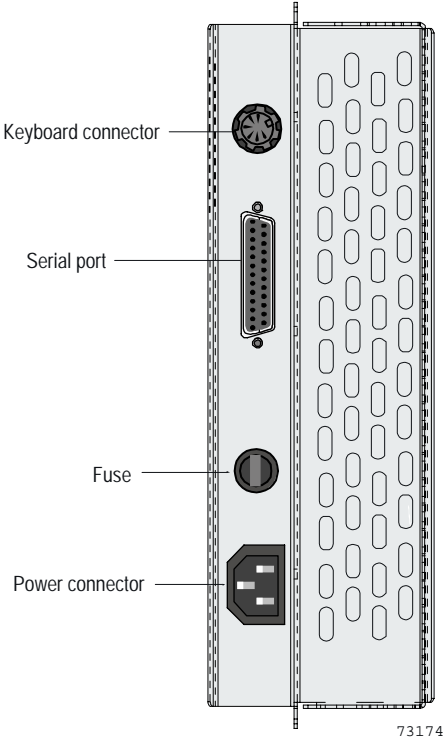

Figure 2: Terminal connectors
1. Attach power to the terminal using the AC power cable supplied (Figure 2).